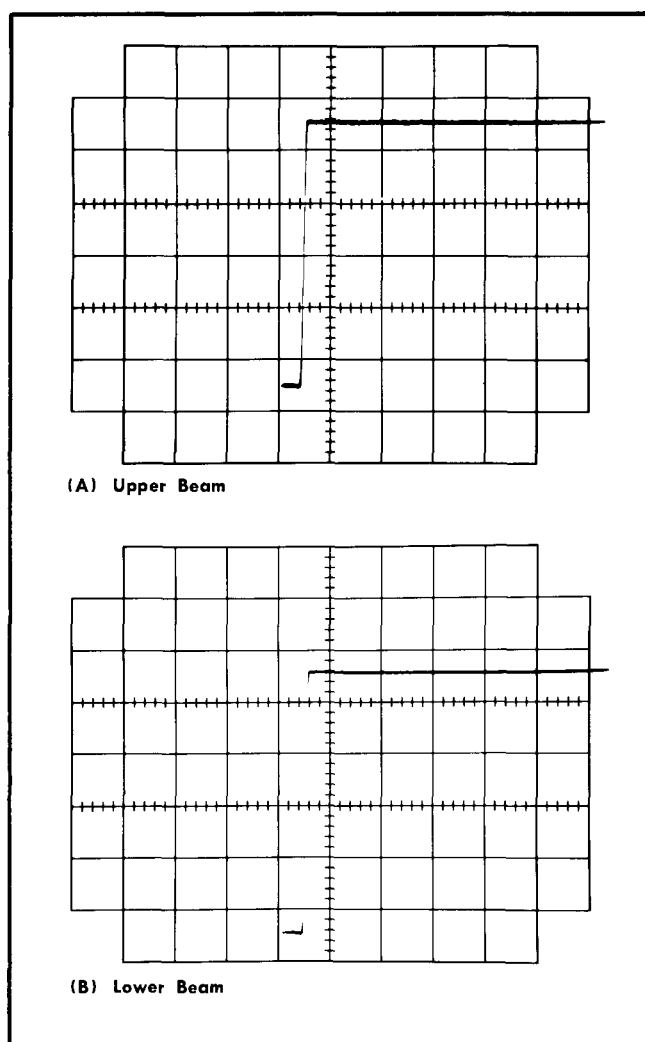
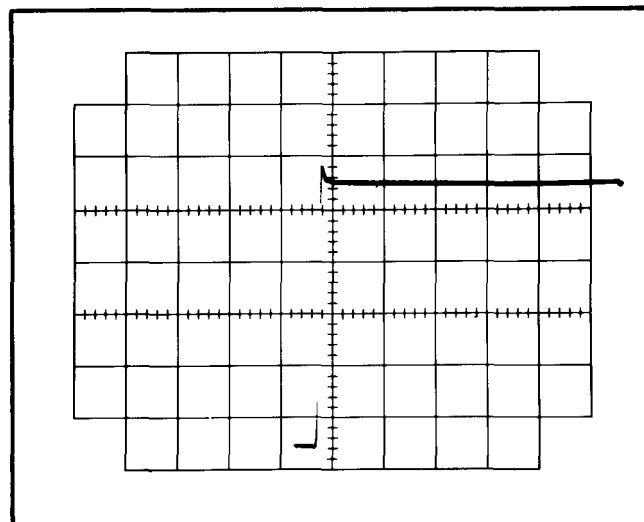

Fig. 6-61. Typical displays, high-frequency compensations correctly adjusted.
Fig. 6-62. Example of misadjustment of C244, right vertical amplifier; sweep speed 100 nanoseconds/cm.
Each resistor and capacitor time-constant network affects a different portion of the waveform; however, each adjustment interacts with all other adjustments. Close observation of the waveform while switching the DISPLAY MAG from  $\times 1$  to  $\times 10$  and vice versa as the adjustments are made will result in a square corner and flat top as illustrated in Fig. 6-61 (A) and (B). Also see Fig. 6-62 for an example of misadjustment.